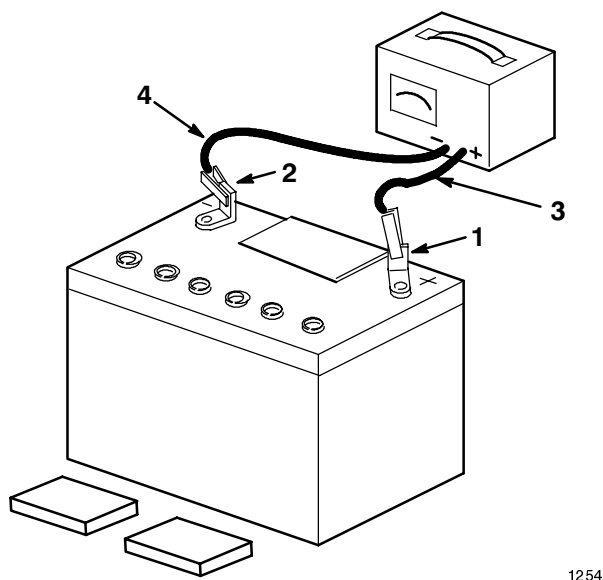

Figure 5
3. Leave the covers off and connect a 3 to 4 amp battery charger to the battery posts (Fig. 5). Charge the battery at a rate of 4 amperes or less for 4 hours (12 volts).
4. When the battery is fully charged, disconnect the charger from the electrical outlet then from the negative and positive battery posts (Fig. 5).